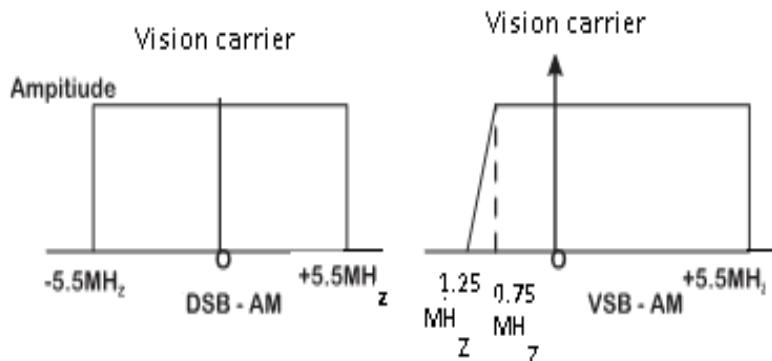

Fig.2.5 (b) VSB in FrequencyDomain
- ❖ Fig 2.5(b) shows the VSB in frequency domain when it is used in TV transmission.